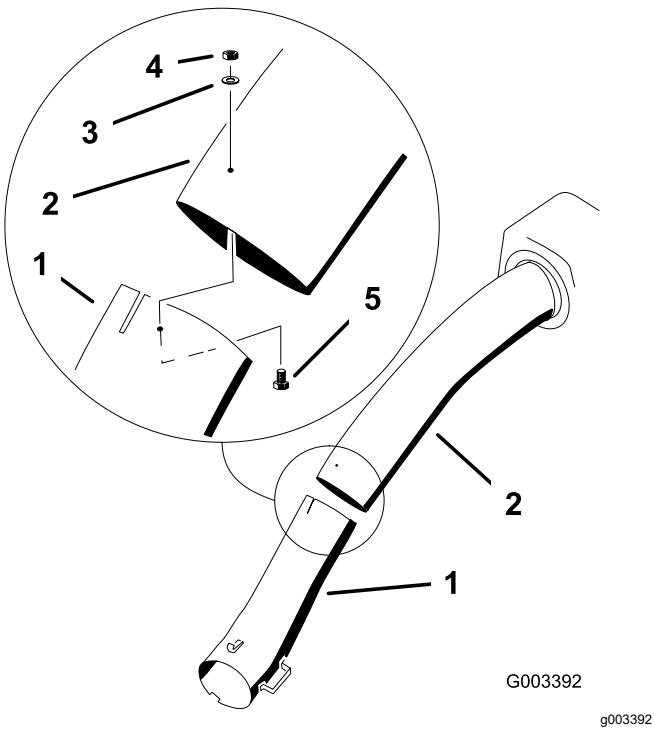

Figure 45
11. Join the upper and lower tubes with 3 bolts (#10 x 3/4 inch), 3 flat washers (7/32 inch), and 3 locknuts (#10) as shown in Figure 45.